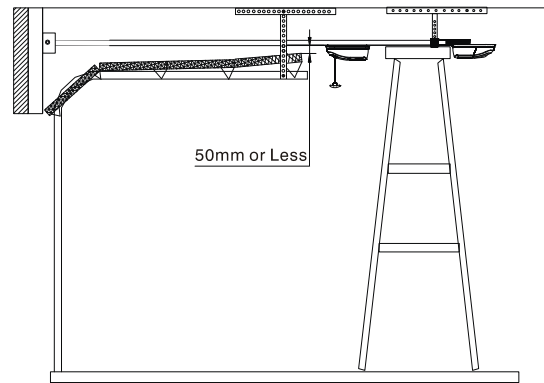

Fig. 7
- b. Mounting the Drive Rail more than 50mm above the Highest Arcing Point of the garage door may cause the Drive Rail to flex excessively. Always ensure that the bottom edge of the Drive Rail is located within 50mm of the top edge of the top panel of the garage door. (Fig.7)
- Raise the Drive Rail assembly off the floor and rest it on a support high enough that the Drive Rail runs parallel to the ground. (Fig.7 depicts typical sectional type garage door installation)
- Slide the Drive Rail Hanger along the drive rail (up to max 600mm from the Control Box) in order to align it with a structural member of the garage. Securely fasten the Drive Rail Hanger to the structural member of the garage using 2 lengths of appropriate hanging material. (Fig.7)
- a. **With the garage door in the fully open position the underside of the Drive Rail should be no more than 50mm above the highest arcing point for its entire length. Mounting the Drive Rail more than 50mm above the Highest Arcing Point of the garage door may cause the Drive Rail to flex excessively. (Fig. 7)**
- b. **With the garage door in the fully open position the underside of the Drive Rail should be no more than 50mm above the highest arcing point for its entire length. Mounting the Drive Rail more than 50mm above the Highest Arcing Point of the garage door may cause the Drive Rail to flex excessively. (Fig. 7)**